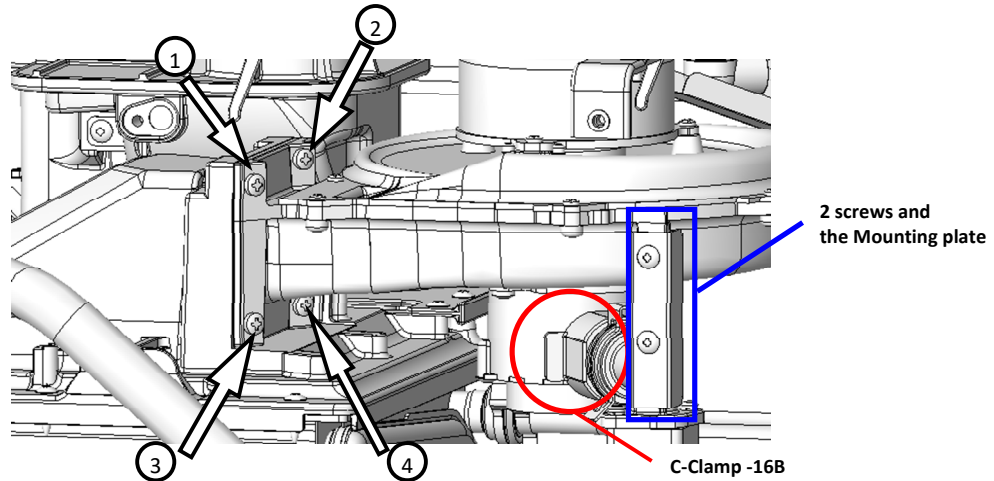

Figure 2
Remove the C-Clamp -16B. Then remove the 4 screws with a Long Philips screwdriver. (Figure 2)
- 13) Attach the C-Clamp -16B at the bottom of Venturi. (Figure 2)
First, insert and tighten screws 1-4 (Figure 2), but do not fully tighten these screws. Once all screws are inserted, proceed to completely tighten screws 1-4. (Figure 2)
- 14) Install the Mounting plate using the 2 screws. (Figure 2)